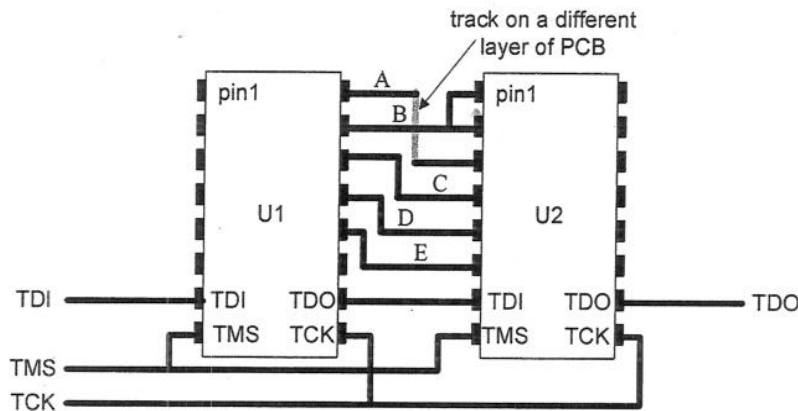

Figure 3.1
- b) Figure 3.1 shows part of the printed circuit board layout with two JTAG compliant components in 16-pin dual-in-line packages. Pins are designated from 1 to 16 anticlockwise. Boundary scan cells are serially connected from pin 6 (head of the scan path) down to pin 1, and pin 16 down to pin 11 (tail of the scan path). TDI, TDO, TMS and TCK are the Test-Data-In, Test-Data-Out, Test-Mode-Select and Test-Clock signals respectively used for JTAG testing. Interconnection faults on the five nets A, B, C, D and E could either be stuck-at faults, or bridging faults to the neighbouring tracks.